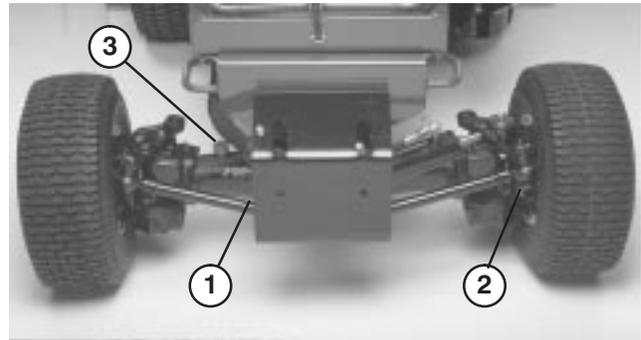

Figure 24
2. Remove check plugs from axle and make sure lubricant is up to bottom of each hole. If level is low, remove fill plugs and add enough lubricant to bring the level up to the bottom of the check plug holes (Fig. 24).